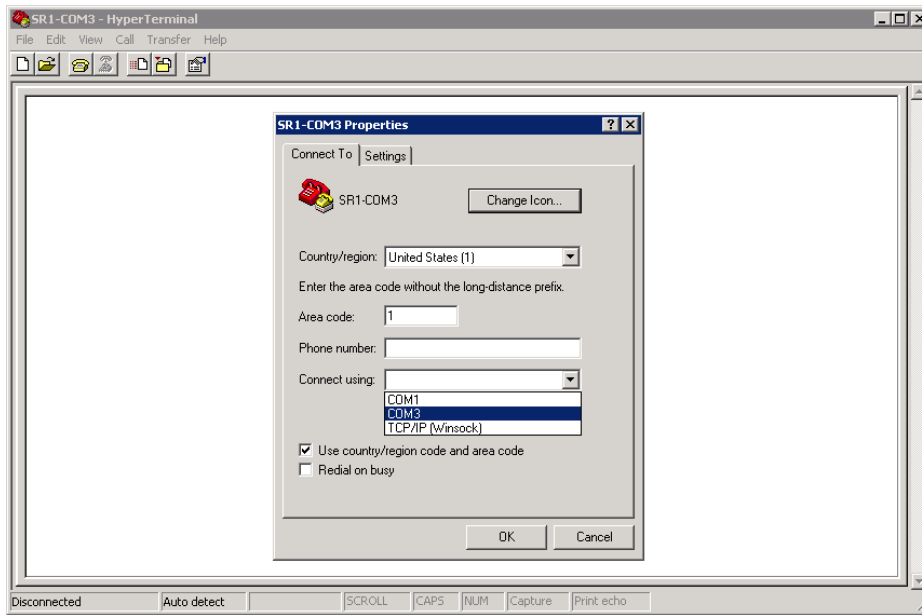

Figure 6 - ST1 Terminal COM Port Selection
6. Figure 6, below demonstrates how to use Windows® HyperTerminal: